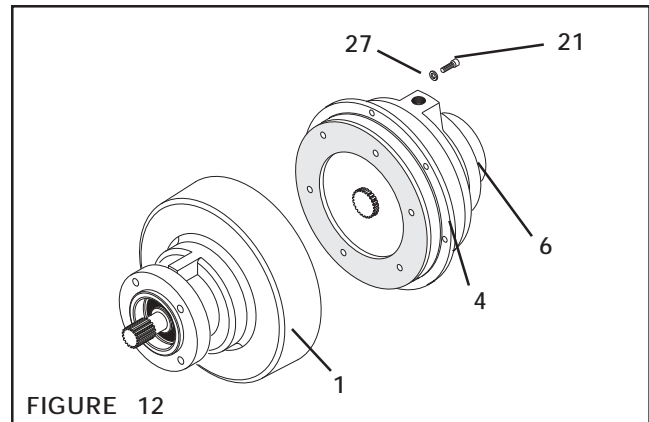

FIGURE 12
6. Slide the assembled Brake Housing (Item 4) and Cylinder Housing (Item 6) onto the Housing (Item 1) (See Figure 12).
7. Apply a drop of Loctite® 242 to the threads of the twelve Socket Head Cap Screws (Item 21) (See Figure 12).